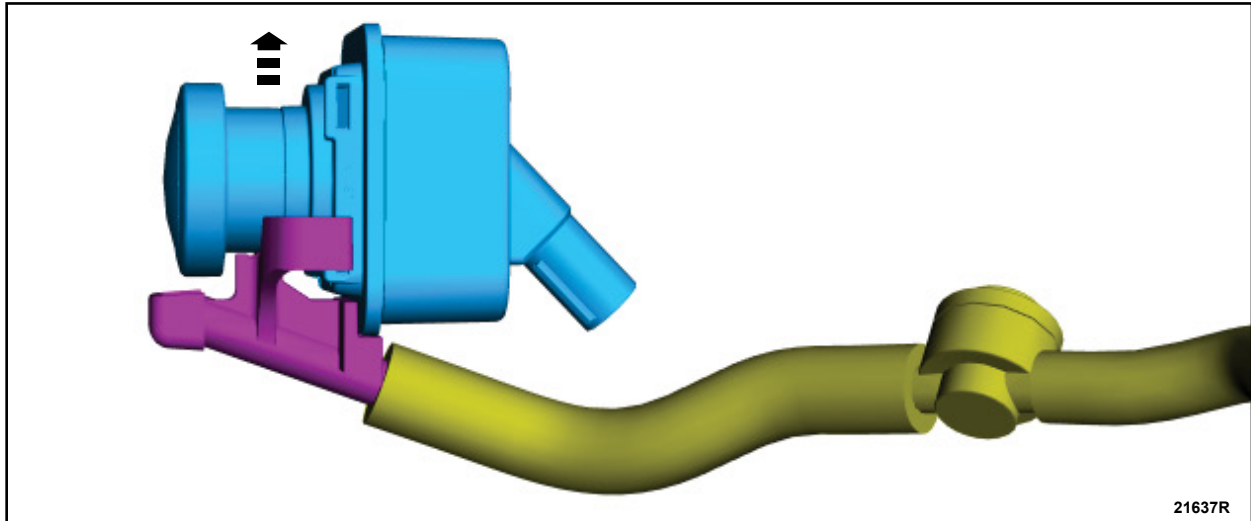

FIGURE 13
7. Release the tabs and remove the washer nozzle, then discard the rear camera. See Figure 13.